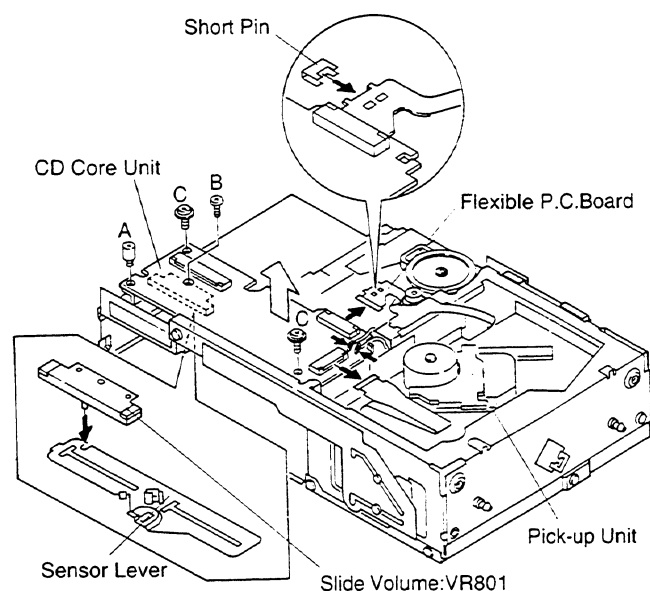

Fig.2
1. Attach the Short Pin onto the Flexible P.C.Board of the Pick-up Unit.(Fig.2)
2. Remove the Flexible P.C.Board from the connector.(Fig.2)
● Removing the CD Core Unit (Fig.2)